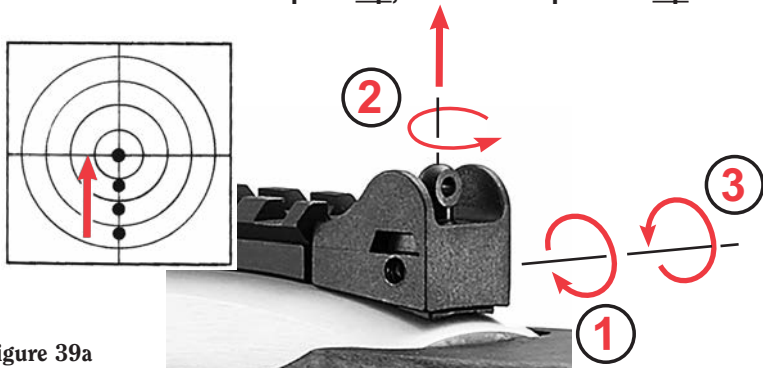

Figure 39a
2. Adjust the aperture by rotating it in half turn increments. Rotating the aperture clockwise will move the aperture down (and therefore the point of impact down as well). Rotating the aperture counterclockwise will move the aperture up (and therefore the point of impact up). (See Figures 39a and 39b.) Rotating the aperture a single half turn (180 degrees) will move the point of impact approximately 1.25 inches at 100 yards.
3. Tighten the combination windage adjustment and locking screw that was loosened in Step One (see Figures 39a and 39b). The Aperture will move against the other screw and will be aligned to the half turn position.